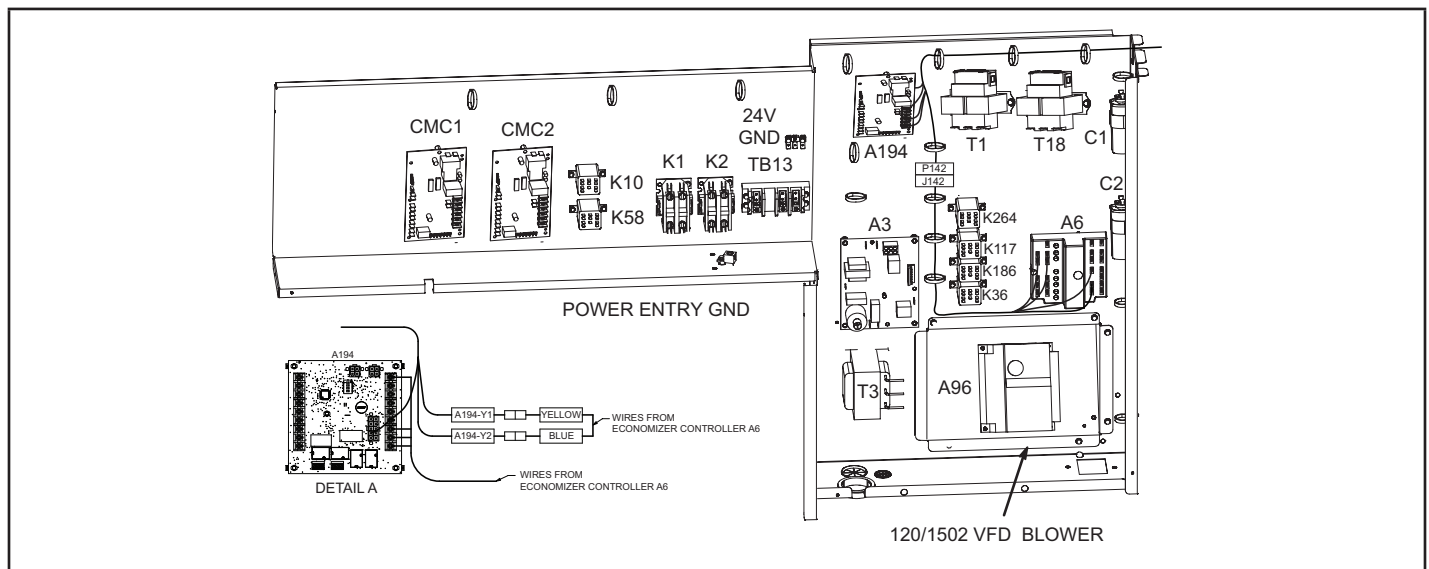

FIGURE 32
- 1 - The economizer control module is located below the actuator for shipping. Relocate the control to the unit control box. See FIGURE 32.
- 2 - Route the control wires to the refrigerant detection board (A194) and connect these wires to TB1 on the A194 board as following (see FIGURE 32):